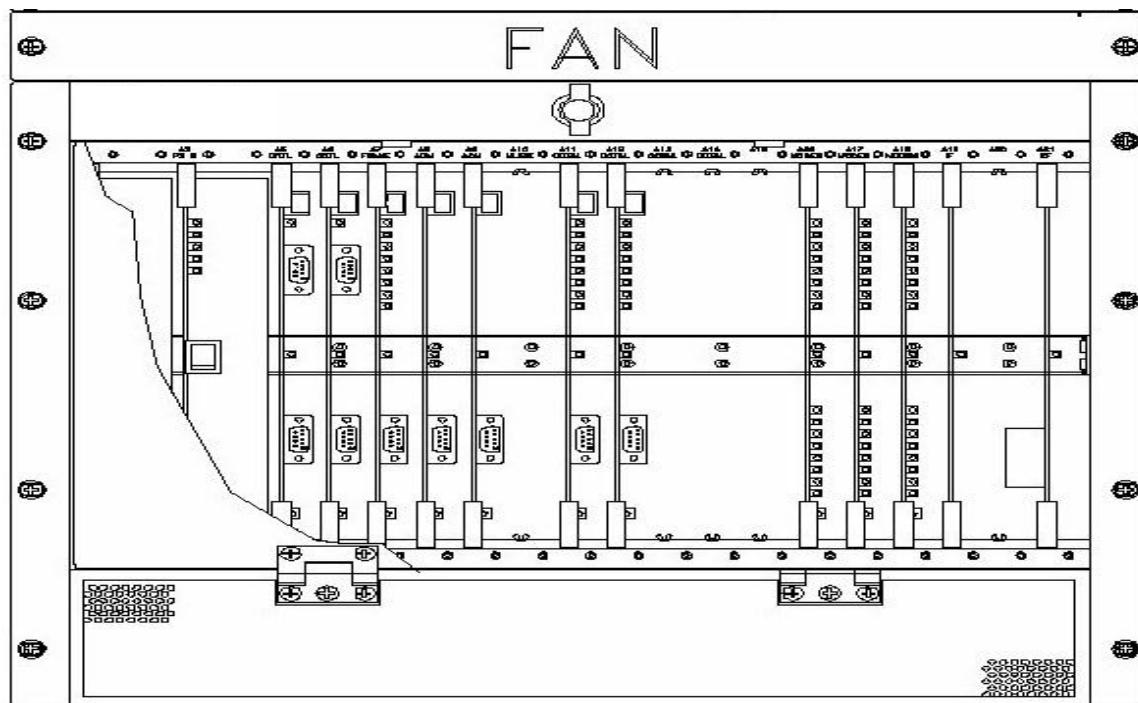

Figure 3 – Cooling Fan and Host Digital Terminal
The Host Digital Terminal (HDT) mounts directly below the CFU and requires eight screws to mount into the equipment rack. Figure 3 shows the CFU and HDT mounted.
**Note:** Additional equipment is added (where required), in the order CFU, HDT, CFU, HDT, etc. Figure 3 shows the CFU and HDT terminal.